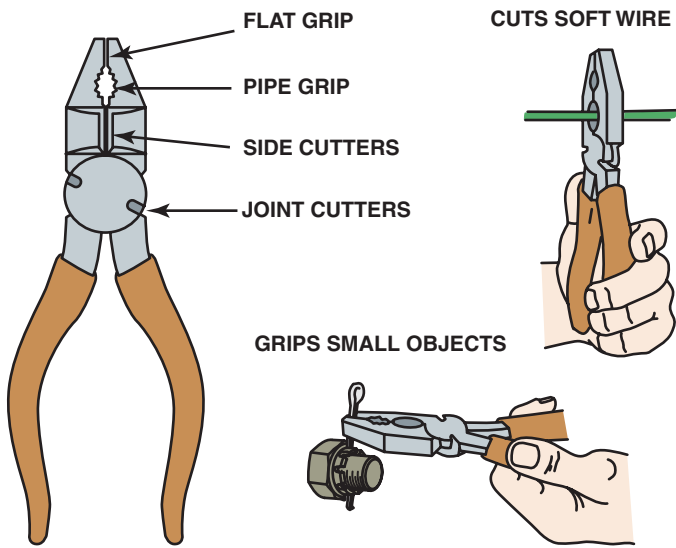

FIGURE 1-38 Linesman's pliers are very useful because they can help perform many automotive service jobs.
- **Linesman’s pliers.** *Linesman’s pliers* are specifically designed for cutting, bending, and twisting wire. While commonly used by construction workers and electricians, linesman’s pliers are a very useful tool for the service technician who deals with wiring. The center parts of the jaws are designed to grasp round objects such as pipe or tubing with slipping. ● **SEE FIGURE 1-38.**